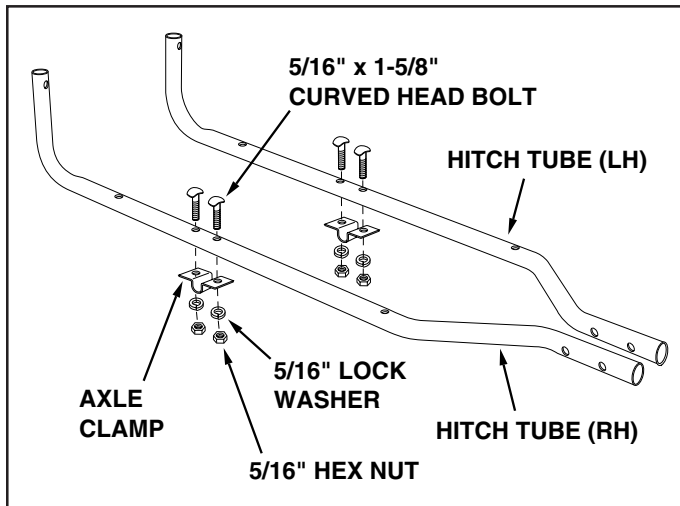
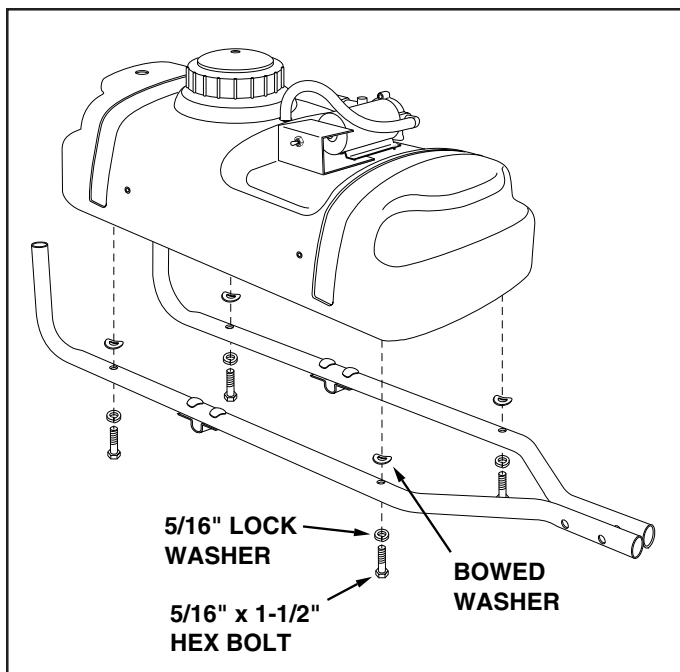

FIGURE 1
FIGURE 2
Your sprayer carton contains parts as shown in figure 1. The hardware package contains parts as shown in figure 2. Identify all parts and layout as shown in figures 1 and 2.
2. Assemble the axle clamps to the hitch tubes using four curved head bolts, 5/16" lock washers and 5/16" hex nuts. **Do not tighten yet.** See figure 1.
3. Assemble the hitch tubes to the tank using four 5/16" x 1-1/2" hex bolts, 5/16" lock washers and bowed washers. Place the bowed washers between the tank and the hitch tubes. **Do not tighten yet.** See figure 2.
10. **Tighten** the four bolts which fasten the hitch tubes to the bottom of the tank. See figure 2.
Tighten the four hex nuts which fasten the axle brackets to the hitch tubes. See figure 1.